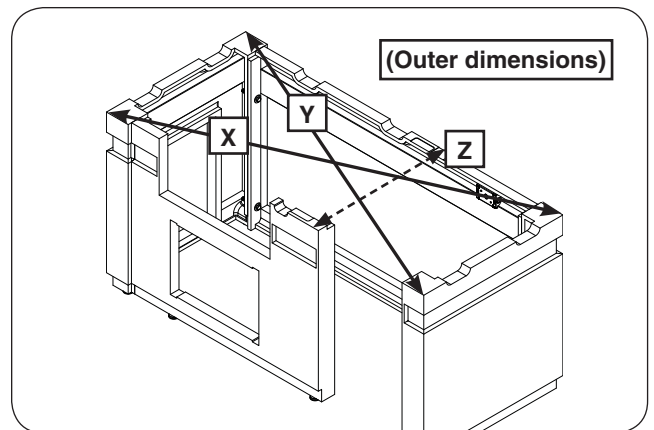

Fig. 11-2 Square unit (then tighten bolts)
- a. Measure the X outer dimension, see Fig. 11-2. It should be approximately:
- b. Measure the Y outer dimension, see Fig. 11-2. Carefully adjust the side walls as needed to ensure the X & Y dimensions are equal. (The final dimension may slightly vary from that mentioned in step a.)
- c. Measure the Z outer dimension, see Fig. 11-2. It should be approximately 30 $\frac{1}{2}$ ".